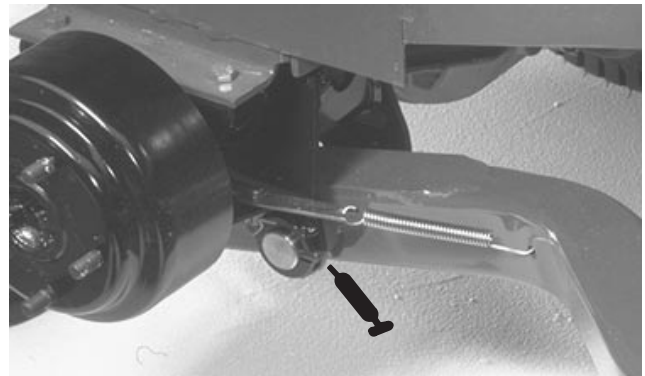

Figure 20
- right and left lift arm pivot pins (Fig. 20)